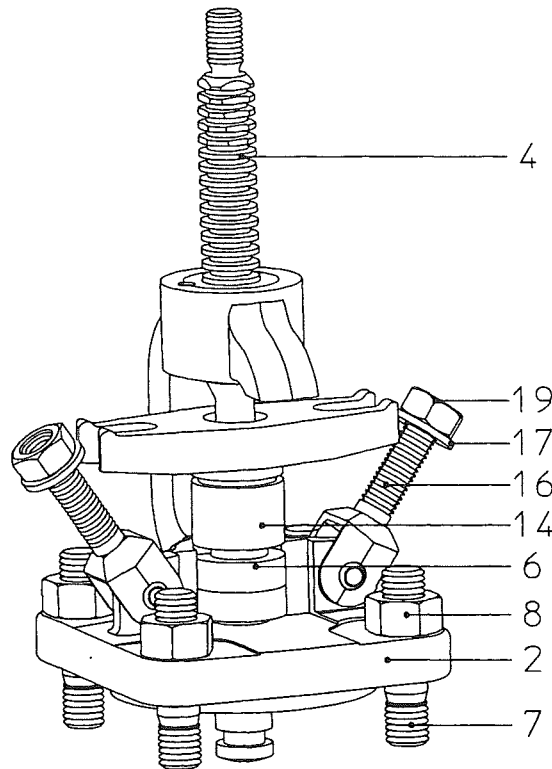

fig. 6: Pattern with hinged bolts
If necessary, renew packing in stuffing box seal (6). Observe warnings (Fig. 6; page 20)! Relieve the pressure in the system first! See points 7.0 and 11.0!